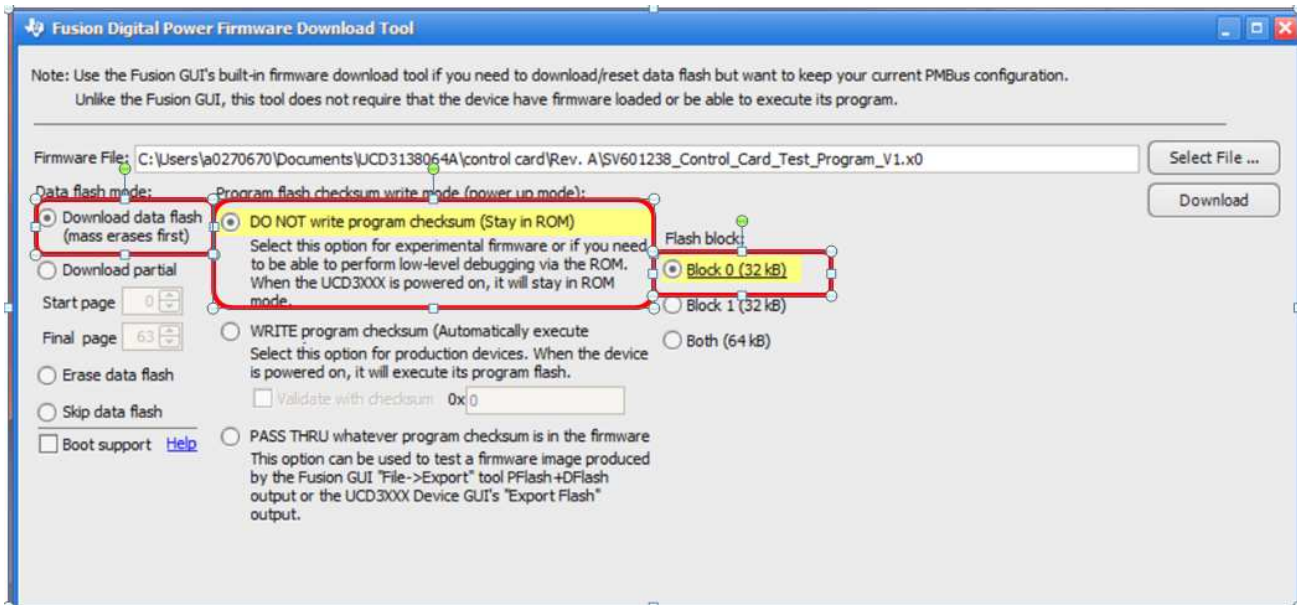

Figure 6. Firmware Code Downloading
- Click **Firmware Download**; then a new window appears as shown in Figure 6. Click **Select File** and browse an intended firmware code file with file extension **.x0** (for example, **cyclone.x0**), then click **Download**. The firmware of **cyclone.x0** will be downloaded to the UCD3138064A device on the UCD3138064AEVM149. When prompted, click **Yes** to complete the download. Click **Close** to exit the download window.